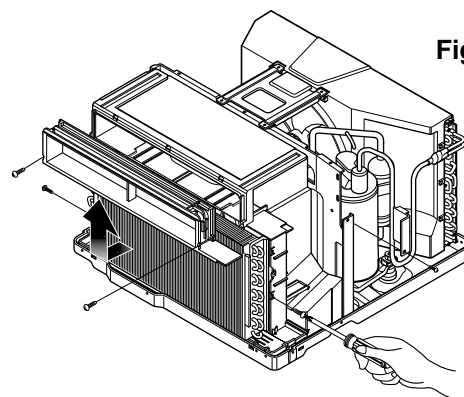

Figure 29
7. Re-install the components by referring to notes. (See Figure 29)